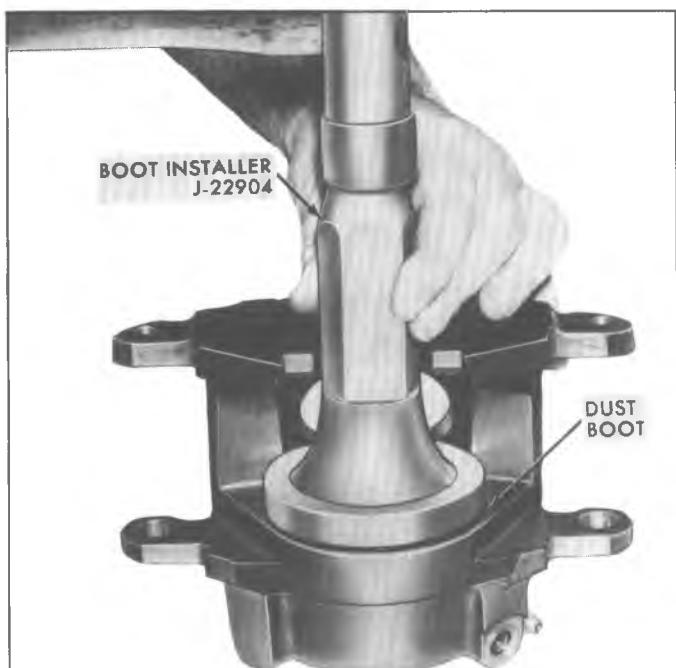

Fig. 62--Installing Boot to Caliper
- Position the dust boot in the caliper counterbore and seat using Boot Installer Tool J-22904 as shown in Figure 62.